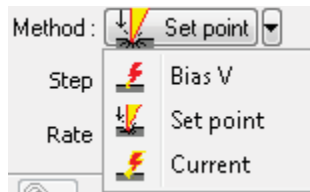

Fig. 13-38. Selecting the lithography method
3. In the drop-down list, select the desired mode of lithography (Fig. 13-38):